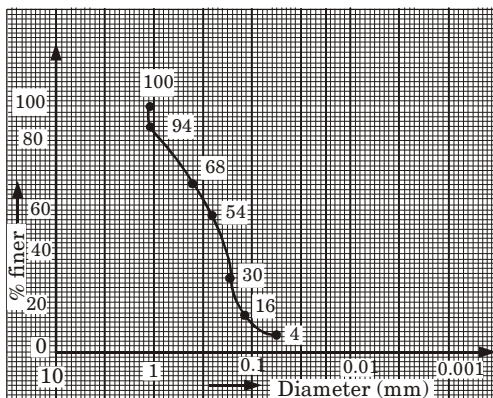

Fig. 1.27.1. Grain size distribution curve.
A. Grain size Distribution Curve : It is shown in Fig. 1.27.1.